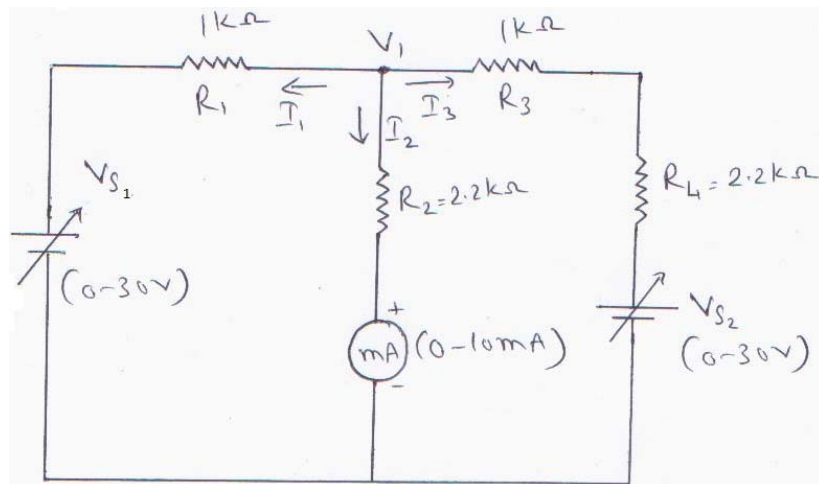

Figure 4.1
1. Connection are made as per the circuit diagram shown in figure 4.1